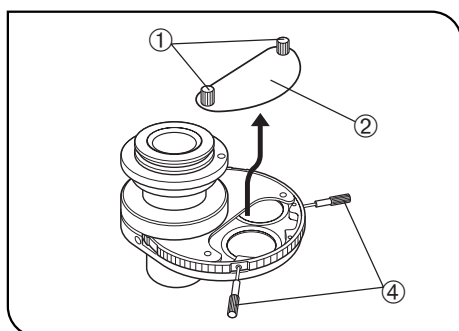

Fig. 36
(Figs. 36 to 40)
1. Place the condenser in the orientation as shown in Fig. 36, loosen the detaching screws ① and remove the cover ②.
3. Loosen the optical element position centering screws using the optical element centering knobs ④. (Figs. 36 & 37)